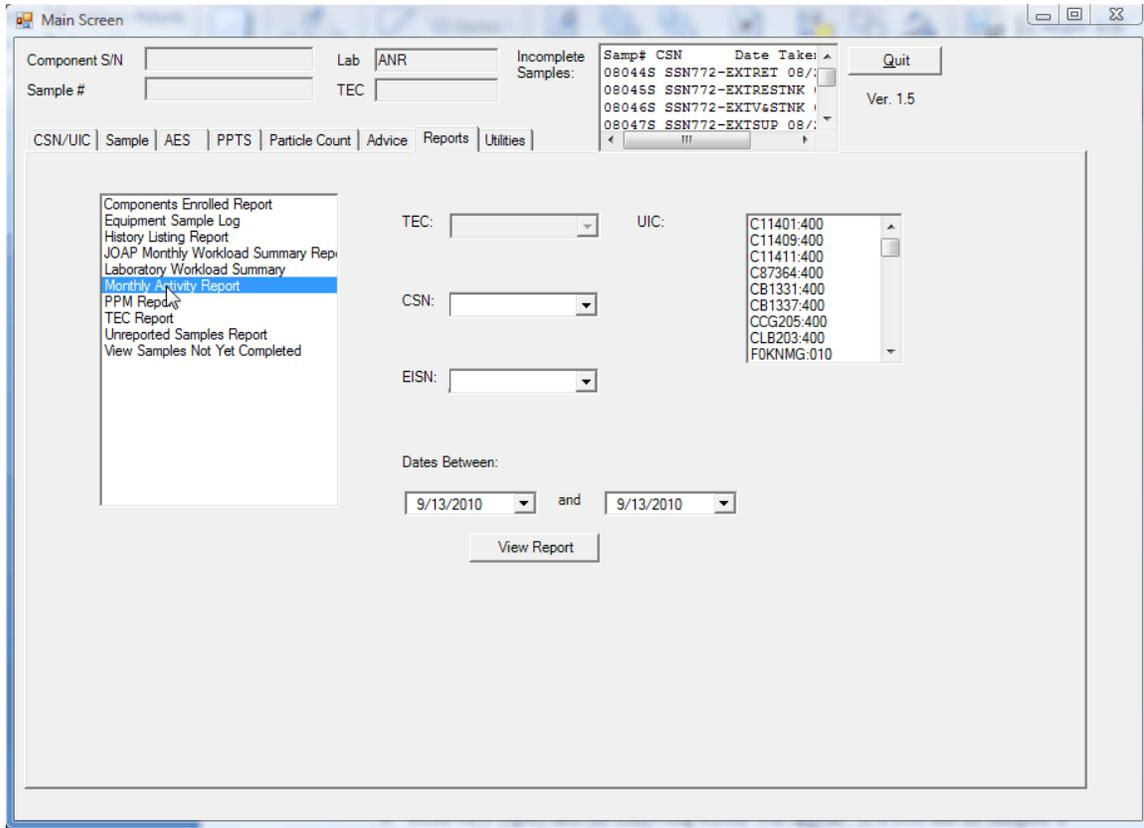

Figure 51. Monthly Activity Report
- e. Monthly Activity Report. Click on Monthly activity report and the following screen will appear (Figure 51). Monthly activity is done at the end of every month to show the command what samples were run in that month.